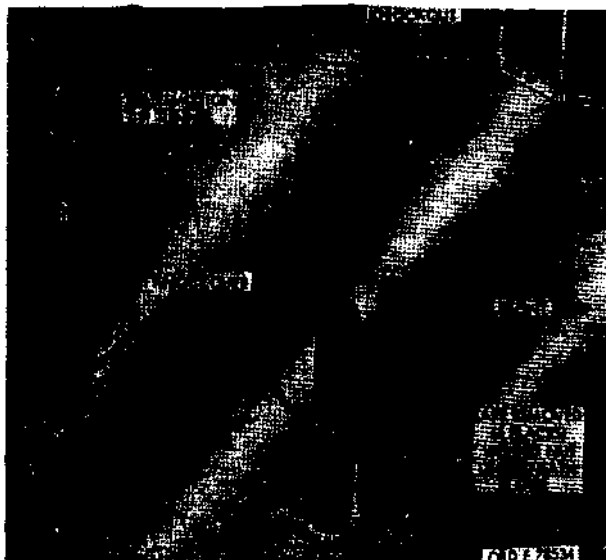

Figure 708. Diagram of cab interior knockouts and taped holes.
- (5) Knock out three oblong holes in vehicle floor (Fig. 708) and one 1-½ dia. circular knockout in rear transmission tunnel.
- (6) Remove tape covering welded nut holes (Fig. 708) for attaching battery box.
- (1) Remove tape on cab floor covering hole and welded nut (fig. 708). Place battery box flange over holes with welded nuts.
- (2) Place spacers 7700455 under battery box toward outside of vehicle (to level box) and attach box to floor and welded nuts using four $\frac{3}{8}$ -24x1 screws MS 96906-35292-60 and washers MS 96906-35337-27.